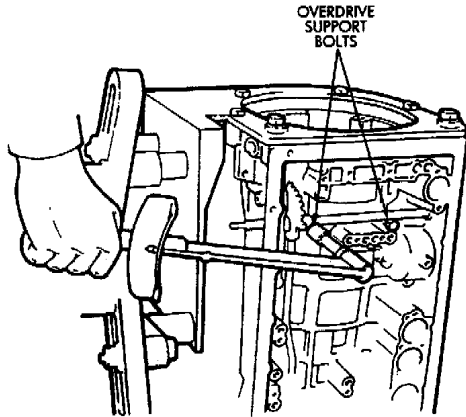

Fig. 39 Installing Overdrive Support Bolts
(47) Install and tighten overdrive support bolts to 25 N·m (19 ft-lbs) torque (Fig. 39).